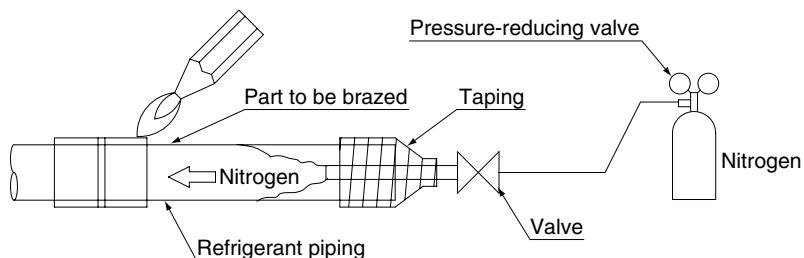

Fig. 5
- When brazing refrigerant piping, begin working after replacing the nitrogen (\*1) or perform brazing while nitrogen is flowing in the refrigerant piping (\*2) (**Refer to Fig. 5**), and at the end made the indoor unit and BS unit flare or flange connections.